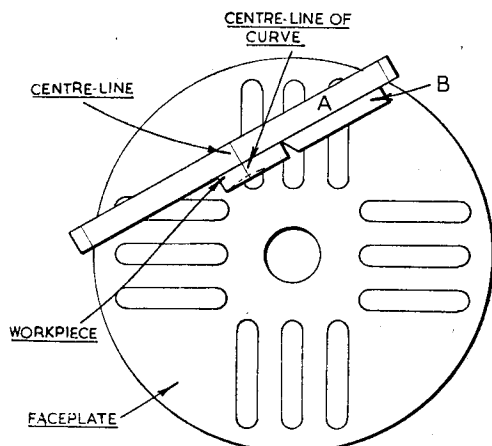

Fig. 2. Showing the position of the guide strip "A," and the end-stop "B."
As the present object is to locate the work-pieces so that they can, in turn, be machined to the given dimensions, a setting fixture is attached to the faceplate in accordance with Fig. 2. This fixture consists of a strip (A), some $\frac{1}{2}$ in. in width, and an end-stop (B).
To ensure uniformity of machining, and to save having to mark-out the remainder of a batch of similar parts, a small end-stop (B) is clamped to the faceplate, as represented in Fig. 2.